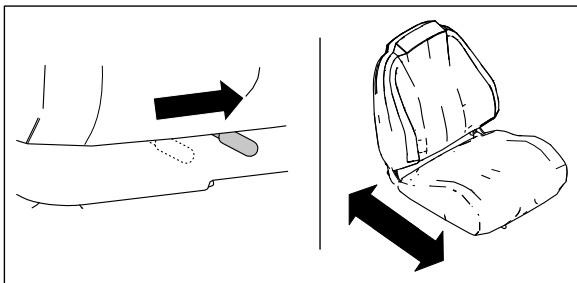

Figure 1
- A. Use the seat position lever to slide the seat forwards and backwards (Figure 1).